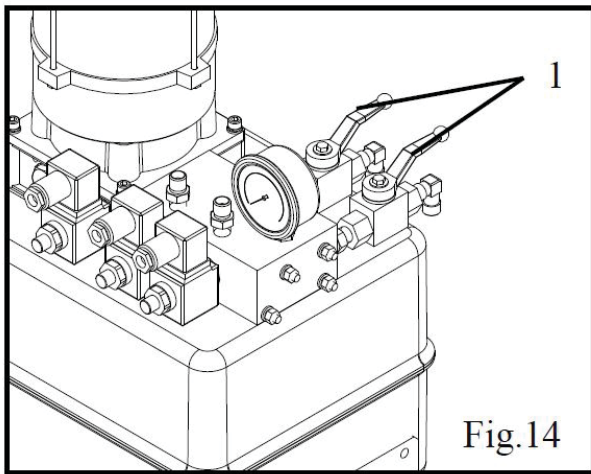

Fig.14
- Turn on the leveling cocks (fig.14 - 1);